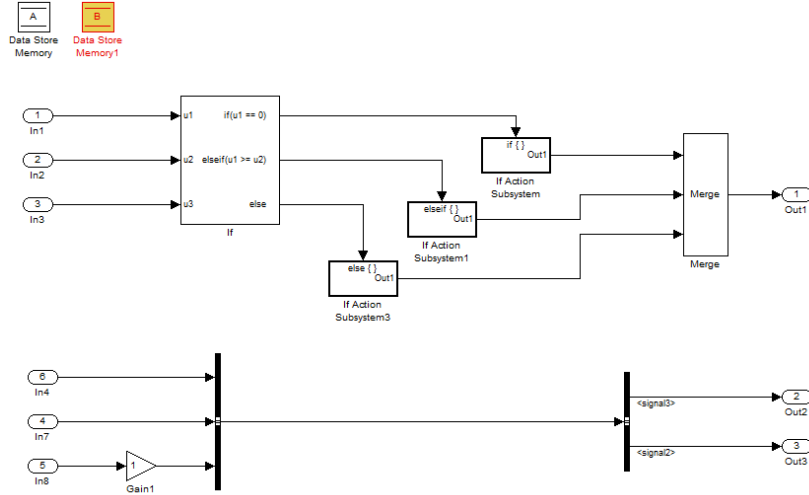

Figure 7: Resulting model after Reach/Coreach operation.
5. Let us now perform a reach/coreach in the model. First, reopen the demo model, so as to start from new. Right-click on Data Store Memory B, and select the **Reach/Coreach From Selected** option. The resulting model is shown in Figure 7. By doing both a reachability and coreachability analysis on this block, we can see the total impact that this block has on the model. In this case, no other blocks or signals are highlighted, meaning that this block has no purpose in the model. It is not used by anything,